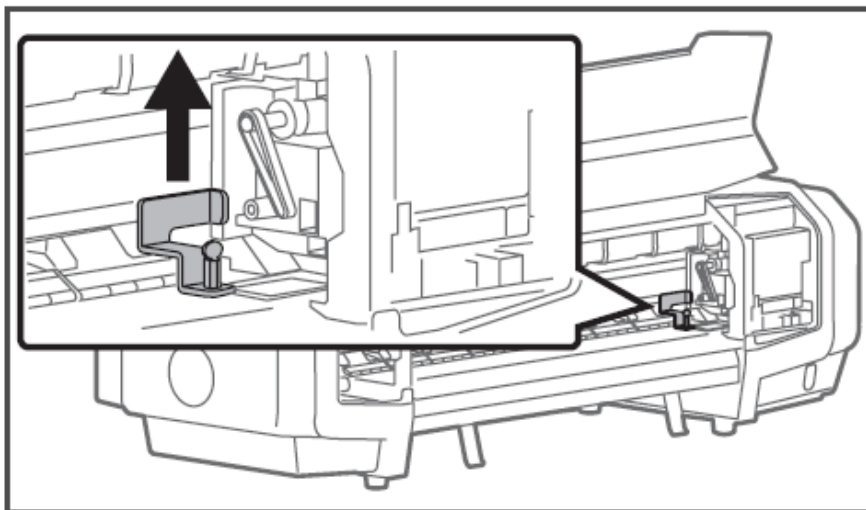

Figure 18
20. Remove the screws and head fixing plate. See Figure 18.